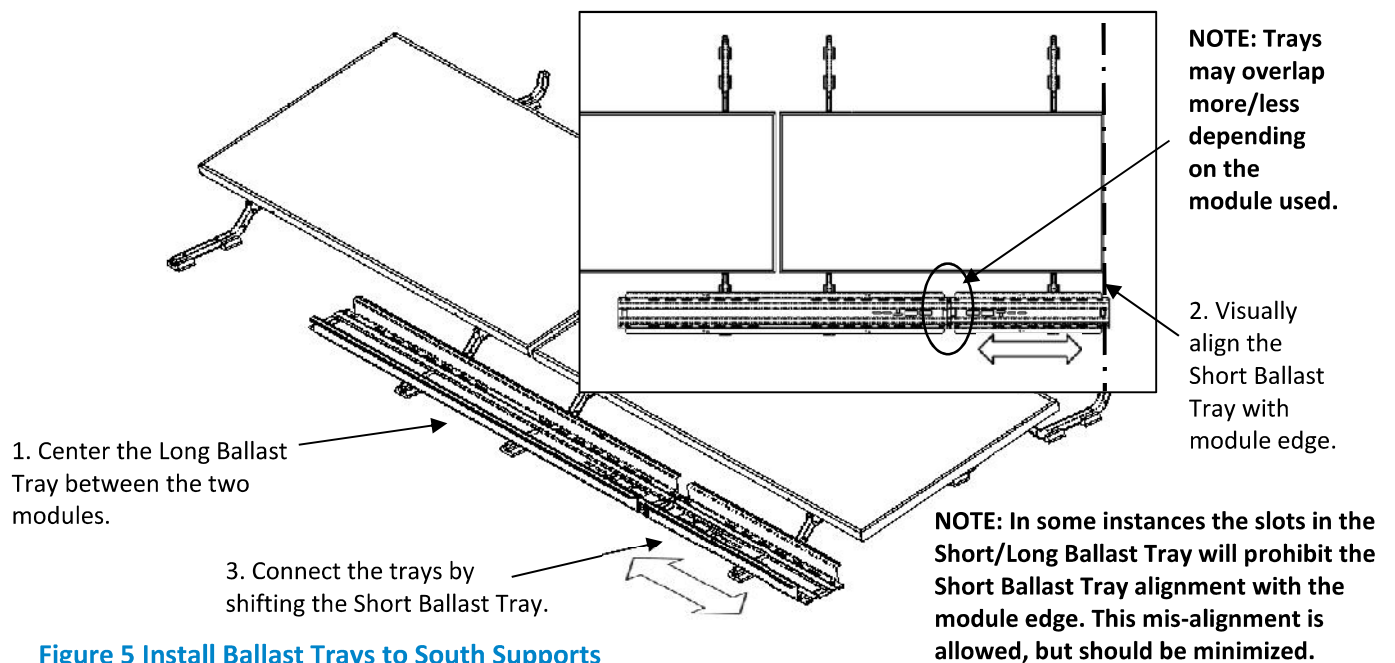

Figure 5 Install Ballast Trays to South Supports
9. Follow Figure 5. Place both Short and Long Ballast Trays on the South Supports. Center Long Ballast Tray between two modules and visually align the Short Ballast Tray with the edge of module. Shift Short Ballast Tray and find the appropriate Ballast Tray slots to connect two trays. Either slots or through holes at the end of the Long Ballast Tray may be used.